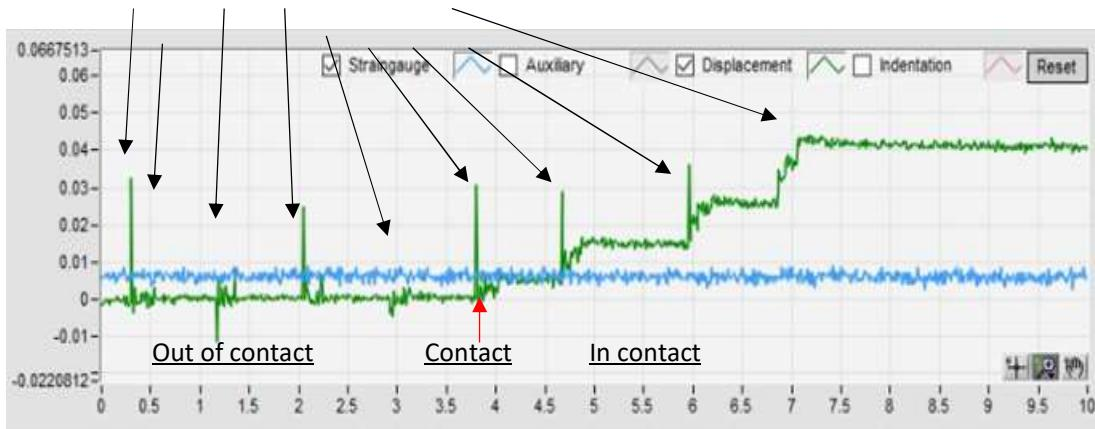

Figure 16 Manual finding of the surface position by pressing down the probe stage at 1 μm steps.
12. Check piezo and cantilever signals move simultaneously in the live signal window, as shown in Figure 16 B(on the top). If there is a mismatch in time (Figure 16 B, on the bottom), the probe is close to contact but not entirely in contact with the surface. Manually move down the probe with steps of 1um until you see that the baseline of the cantilever signal has changed. If the cantilever signal does not change at all during calibration, the probe is far from the sample. Repeat the procedure from the ‘Find Surface’ step.
- When calibration is completed, ‘New factor’ is given. By pressing ‘Use new factor’ the software automatically saves the new ‘Calibration factor’ in the probe configuration menu. The calibration factor should be ~ 1.33 times lower in the medium than it is in the air which is given on the box of the probe, e.g. if the number on the box is 3.2, then the geometrical factor in the medium should be $3.2 \div 1.33 \approx 2.4$. When repeating geometrical factor calibration, only a slight variation is expected $< 5\%$. You can also check in Load-Indentation data that loading and unloading data overlap and are straight slopes (Figure 16 D). The slight mismatch is expected due to drift and hysteresis in piezo movement. **If calibration has failed, check the troubleshooting section in this manual.**